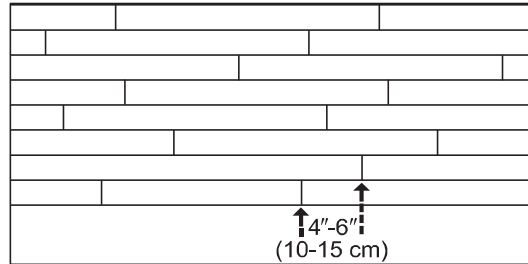

Figure 3 – Preferred Alignment
- Be attentive to staggering the ends of the boards at least **4"-6" (10-15 cm)** when possible, in adjacent rows (**Figure 3**). This will help ensure a more favourable overall appearance of the floor.